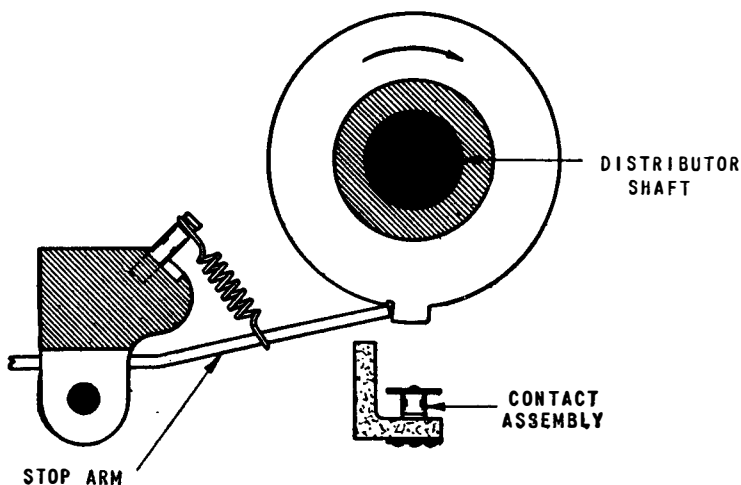

Figure 9-16.—Distributor shaft and stop arm.
When an a-c governed motor is used, a contact assembly, operated by the tape stop magnet arm (fig. 9-16) is provided. Purpose of the contact assembly is to provide better speed control by (1) introducing a resistor in series with the motor when the distributor shaft is rotating, and (2) shunting the resistor when the load of the friction clutch is added to the motor.